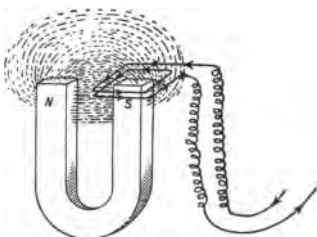

FIG. 261. — A coil moving in a magnetic field generates a current.
**302. Currents induced by magnets.** If we connect the ends of a coil of many turns of fine insulated wire to a lecture-table galvanometer, and then move the coil quickly down over one pole of a strong horseshoe magnet, as shown in figure 261, we observe a deflection. When we raise the coil again, we observe a deflection in the opposite direction. If we lower the coil again and hold it down, we find that the galvanometer pointer comes back to zero. If we repeat the experiment, moving the coil down slowly and up slowly, we find that the deflection is less than before.
**303. Direction of induced currents.** If we take the same apparatus (Fig. 261) and move the coil down over the *N*-pole of the magnet and then down over the *S*-pole, we find that the deflections are in opposite directions in the two cases. To determine in which direction the induced current is flowing in the coil, one may make a little voltaic cell by putting in his mouth a copper wire and a zinc wire connected to the galvanometer. Since we know that the copper is the positive electrode, we can compare the direction of the galvanometer deflection caused by the cell current with that caused by the induced current, and so determine the direction of the latter. In this way we find that when the coil is moving down over the *N*-pole of the magnet, the induced current is in such a direction that the lower face of the coil is an *N*-pole. In a similar way we find that when the coil is brought down over the *S*-pole of the magnet, the induced current is in such a direction that the lower face of the coil is an *S*-pole. In both cases the lower face of the coil is a pole of such a sort as to be repelled by the pole toward which it is moving.